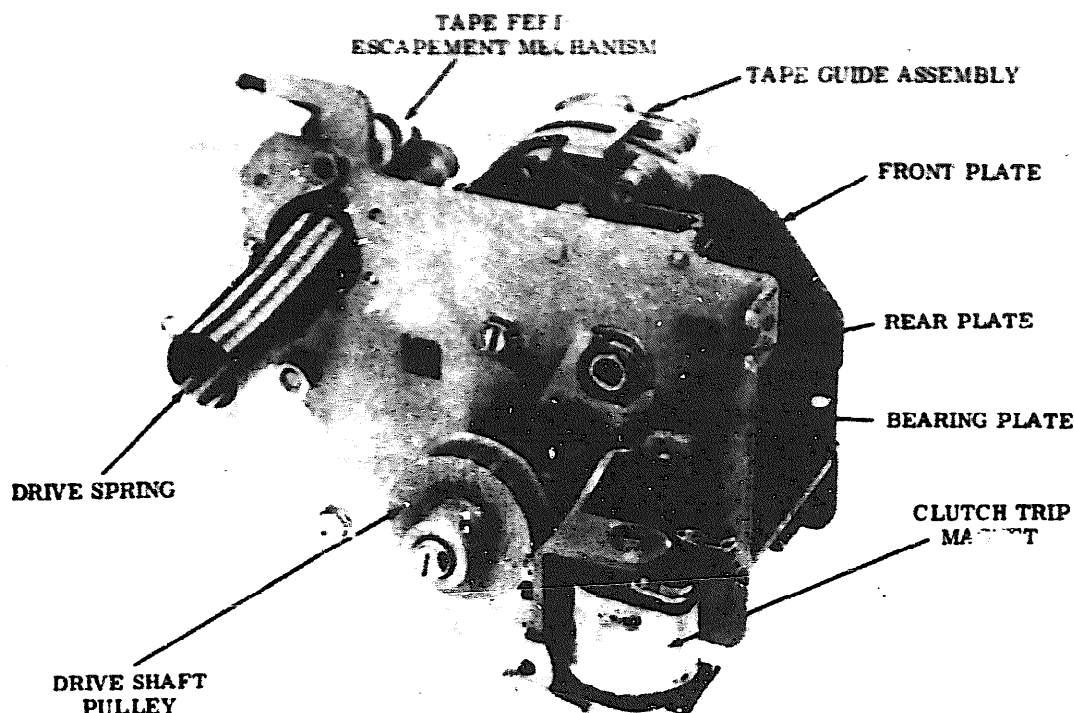

Figure 11 - Punch Backup Mechanism, Rear View
- 3.09 To remove the trip magnet assembly (Figure 11):
3.16 To remove the drive spring (TP149833) (Figure 11):